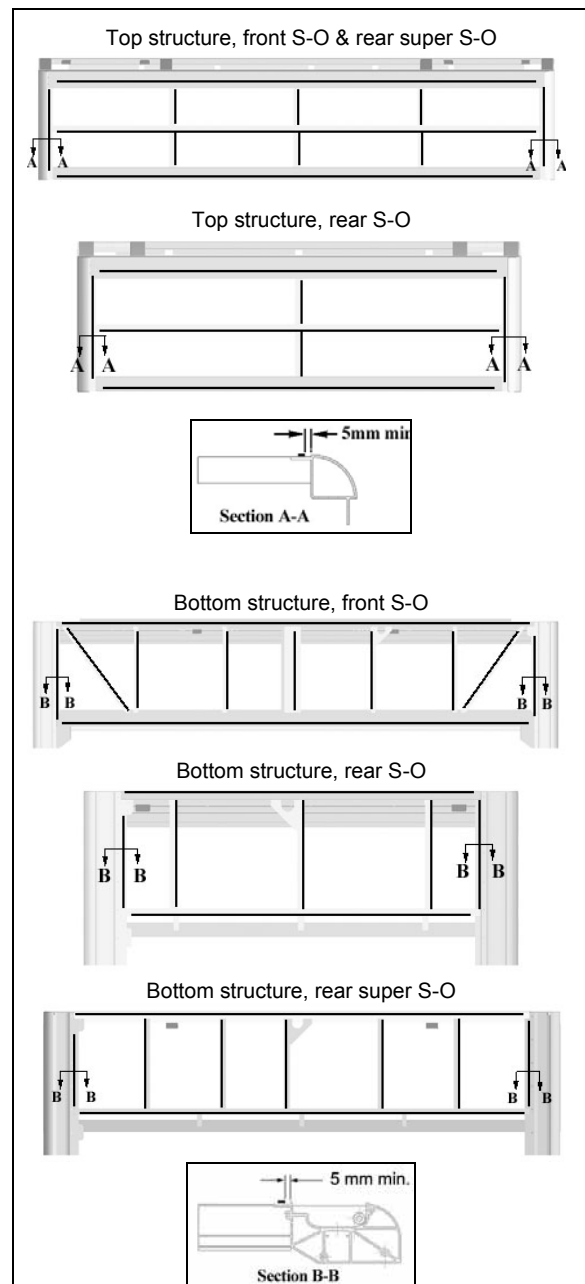

FIGURE 49 : TOP AND BOTTOM PANEL INSTALLATION - DOUBLE FACE ADHESIVE TAPE APPLICATION
2. Refer to FIGURE 49 for 1/16x1/4 double face adhesive tape location on structure [5mm≈6/32"];]